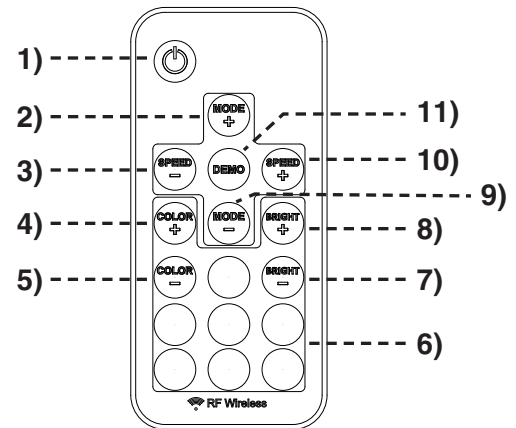
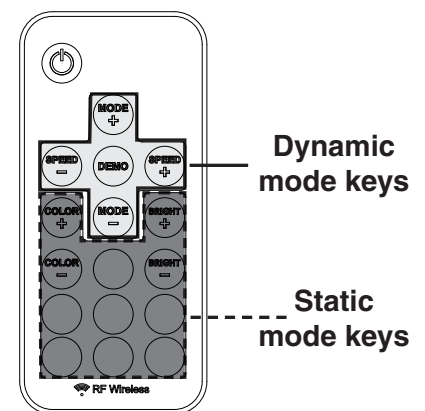

Fig. 11-1 Remote transmitter detail
Fig. 11-2 Remote transmitter modes detail
Prior to remote transmitter use, familiarize yourself with the transmitter keys as illustrated in Fig. 11-1 and Fig. 11-2.
2. Press the **POWER** key on the remote transmitter to turn the light on or off (see Fig. 11-1).
3. Use the remote as desired. Reference the above section and Fig. 11-1 and 11-2.